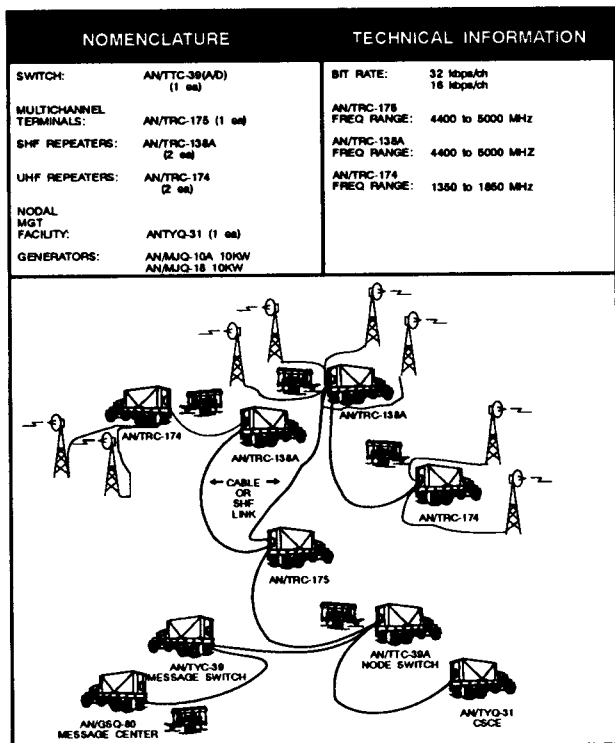

Figure 3-26. Typical TRI-TAC area node.
**Function.** The area node primarily consists of an AN/TTC-39D switch and its associated multichannel link assemblages. Area nodes serve as central access points for the medium and small extension nodes. Each area node operates as an automatic switching point that receives traffic and routes it to other nodes. Node management is performed from a communications system control element (CSCE), AN/TYQ-31. See Figure 3-26.